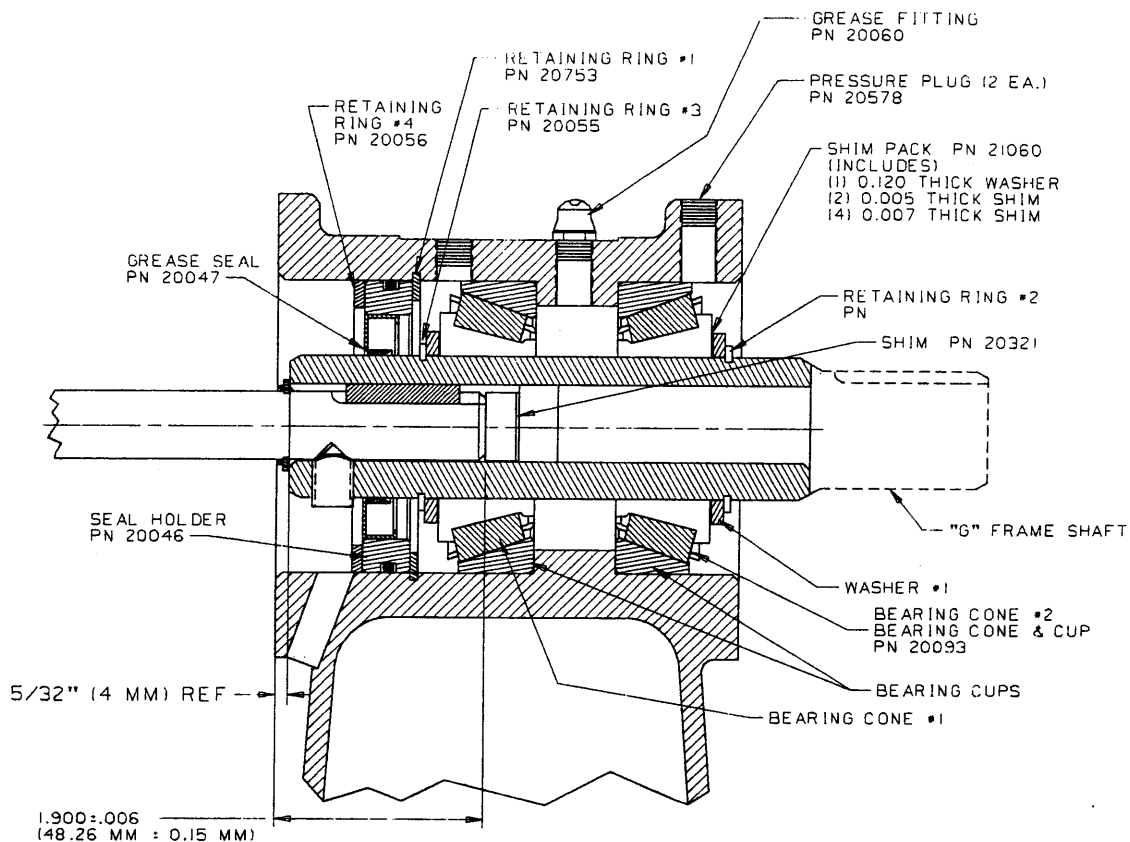

Figure 6.5
Refer to Figure 6.5, for the construction of bearing frames HT, HU, HW, HY, HZ, and G. These bearing frames utilize a shim pack to adjust the bearings.
8. If removed, press bearing cone #1 onto the shaft, making sure the back-up washer behind retaining ring #3 is replaced if the pump had one installed initially. Do not apply excess force. The bearing cone should be held squarely on the shaft when starting to insure it is pressed on straight. The correct set-up may be checked by placing the shaft into the frame and measuring the 5/32-inch (4 mm) recess (Figure 6.5).
16. The 1.900-inch \pm 0.006-inch (48.26 mm \pm 0.15 mm) dimension shown on Figure 6.5 applies to the HT-, HU-, HW-, HY-, HZ-, and G-Bearing frames.